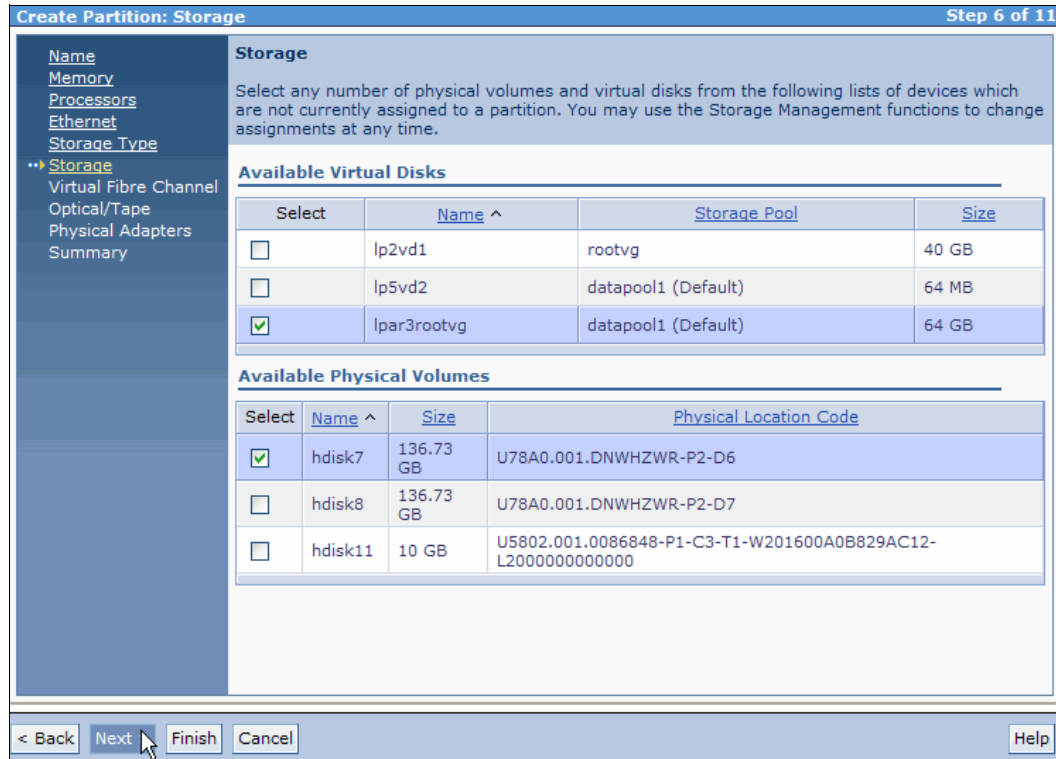

Figure 4-42 Create Partition: Storage
- Select the needed virtual disks or physical volumes from the list, as shown in Figure 4-42. Click **Next**.